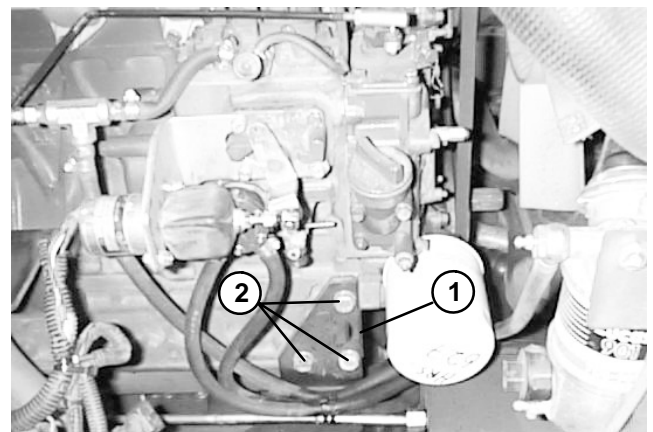

Figure 27
16. Remove three cap screws and lock washers securing the engine to the rear bracket and spacer (Fig. 27).
3. Secure engine to the spacers and rear brackets with three cap screws and lock washers. Torque cap screws from 61 to 75 ft-lb (8.4 to 10.4 kg-m) (Fig. 27).